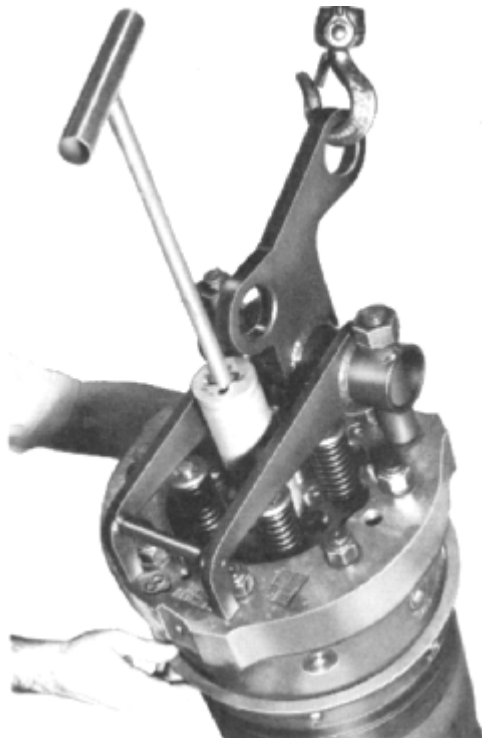

Fig. 5-33 - Seat Ring Installation
17. Place the seat ring on the assembly, Fig. 5-33, making sure that the chamfered side is facing up, and the notch is at the 6 o'clock position. Place thread protectors on cylinder head crab bolts.